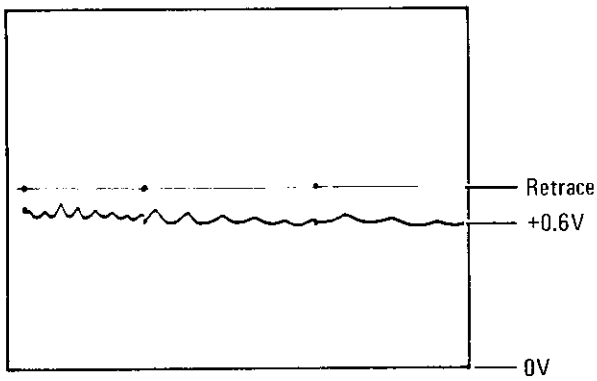

Figure 5-6. Pin Modulator Drive Voltage With Multiplier Bias Correctly Adjusted
- l. Adjust OFFSET control A10A1R4 counterclockwise until CRT trace is at maximum voltage in Bands 2 and 3 portion of Band 4 sweep. Display should appear as shown in Figure 5-6.